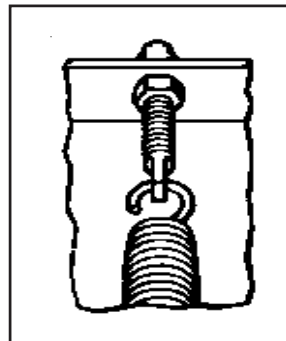

Figure 2
- C. Attach trip springs (11) to pivot bar (9) and moldboard (1) with eye bolts (13). Flat end of eye bolt (13) must be in a vertical position, as shown in Figure 2, to hinge properly when moldboard (1) trips. Proper tension is attained when trip spring (11) coils begin to separate and then tighten top locknut four additional turns. Tighten bottom Finish nut to secure eye bolt (13) in position. Install Eye Bolt Caps over threads.
- D. Assemble A-Frame (10) to pivot bar (9) using Bolt (14) and locknut (15).
- E. Install power angling rams with hoses to A-Frame (10) and piston end of ram to pivot bar (9) using hardware bag packed in the Hydraulic Carton.
- F. Straighten end of plow markers (8) so they will be vertical after installation. Attach using 1/4-20 x 1" bolt, clamp, lockwasher and nut.
- G. Secure the moldboard-pivot bar-A-frame assembly to vehicle at the clevis frame using pins (20), 1" Flatwasher (17) and 1/4 x 2" cotter pin (19). Attach lift chain to lift arm allowing sufficient slack to allow moldboard to follow ground contours.